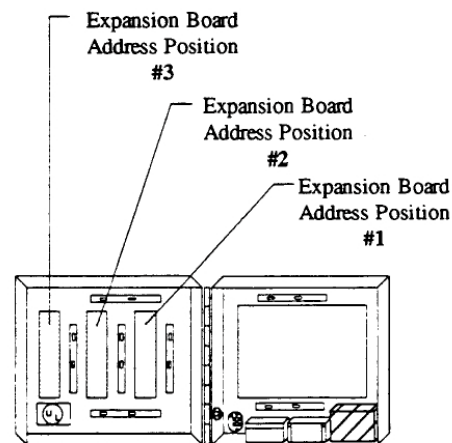

Figure 44 - Expansion Board Address Positions
2. Determine the location of the DI/DO Alarm board in the order, *from right to left*, that the Expansion I/O boards are mounted (see Figure 44).